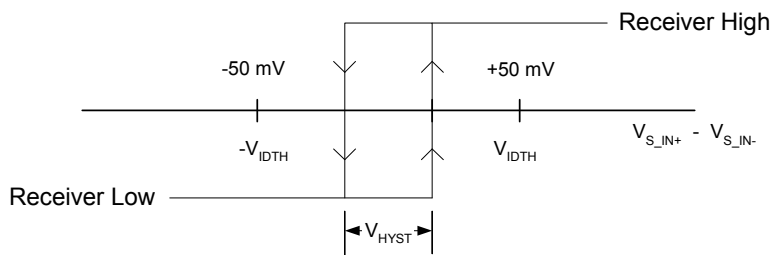

Figure 23. Input Differential Hysteresis
1. Receiver is at high level when $V_{S_INP} - V_{S_INN}$ is greater than $V_{IDTH}(\text{min})$ and is at low level when $V_{S_INP} - V_{S_INN}$ is less than $-V_{IDTH}(\text{min})$. A minimum hysteresis of V_{HYST} is present between $-V_{IDTH}$ and $+V_{IDTH}$ as shown in Figure 23.